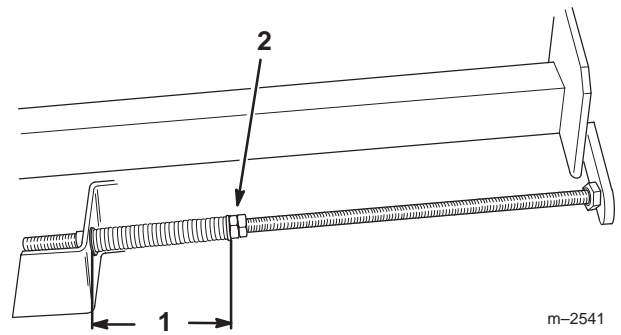

Figure 27
3. Belt Guide (2)
6. Tighten the jam nuts on the adjusting shafts until the springs are compressed to a length of 5 inches (13 cm) (Fig 27).